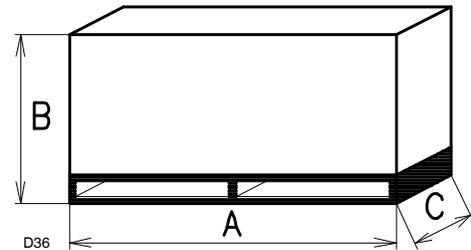

Fig. 1
- The packaging of the burner (Fig. 1) rests on a wooden platform that is particularly suitable for lift trucks. The overall dimensions of the packaging are shown in the Tab. E.